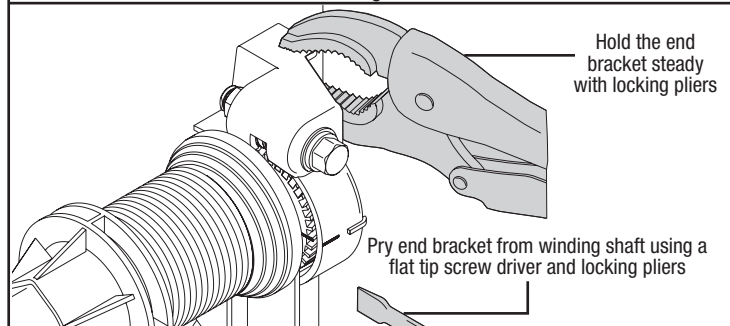

Fig. 7
**Step 5:** While hold the end bracket with the locking pliers, pry the end bracket from the winding shaft using a flat tip screw driver (Fig 7).